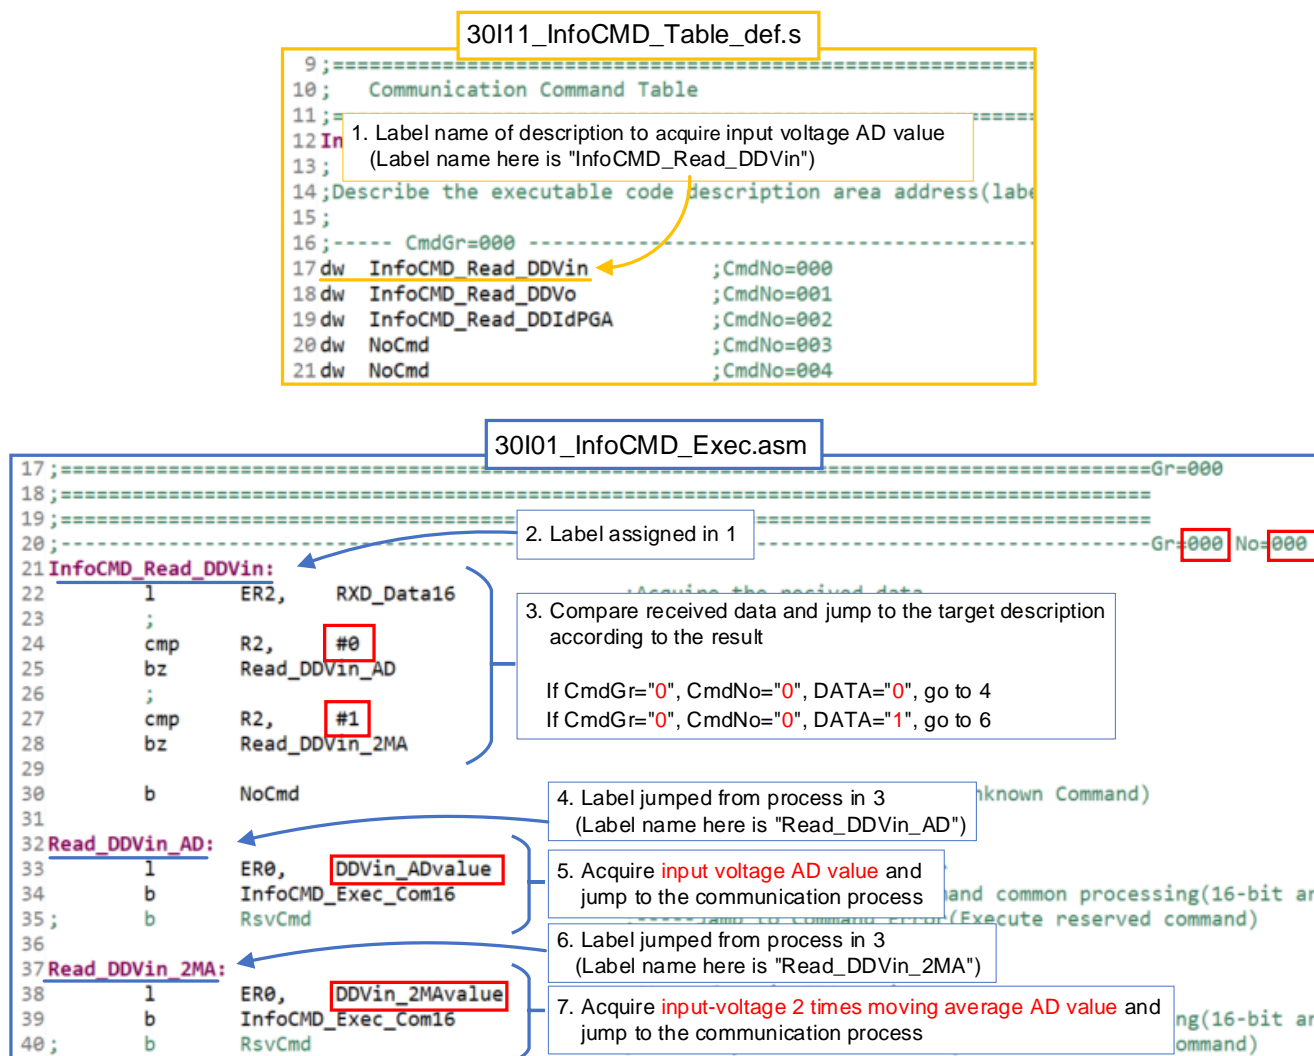

Figure 3-10. Description and operation of read command
Figure 3-10 shows the descriptions and operations of Read command. The following programs describe how to read an input voltage AD value or 2 times moving average value (when CmdGr = "0" and CmdNo = "0").
3. Describe the command processing. Refer to the figure 3-10 and 3-11 for how to describe the program.